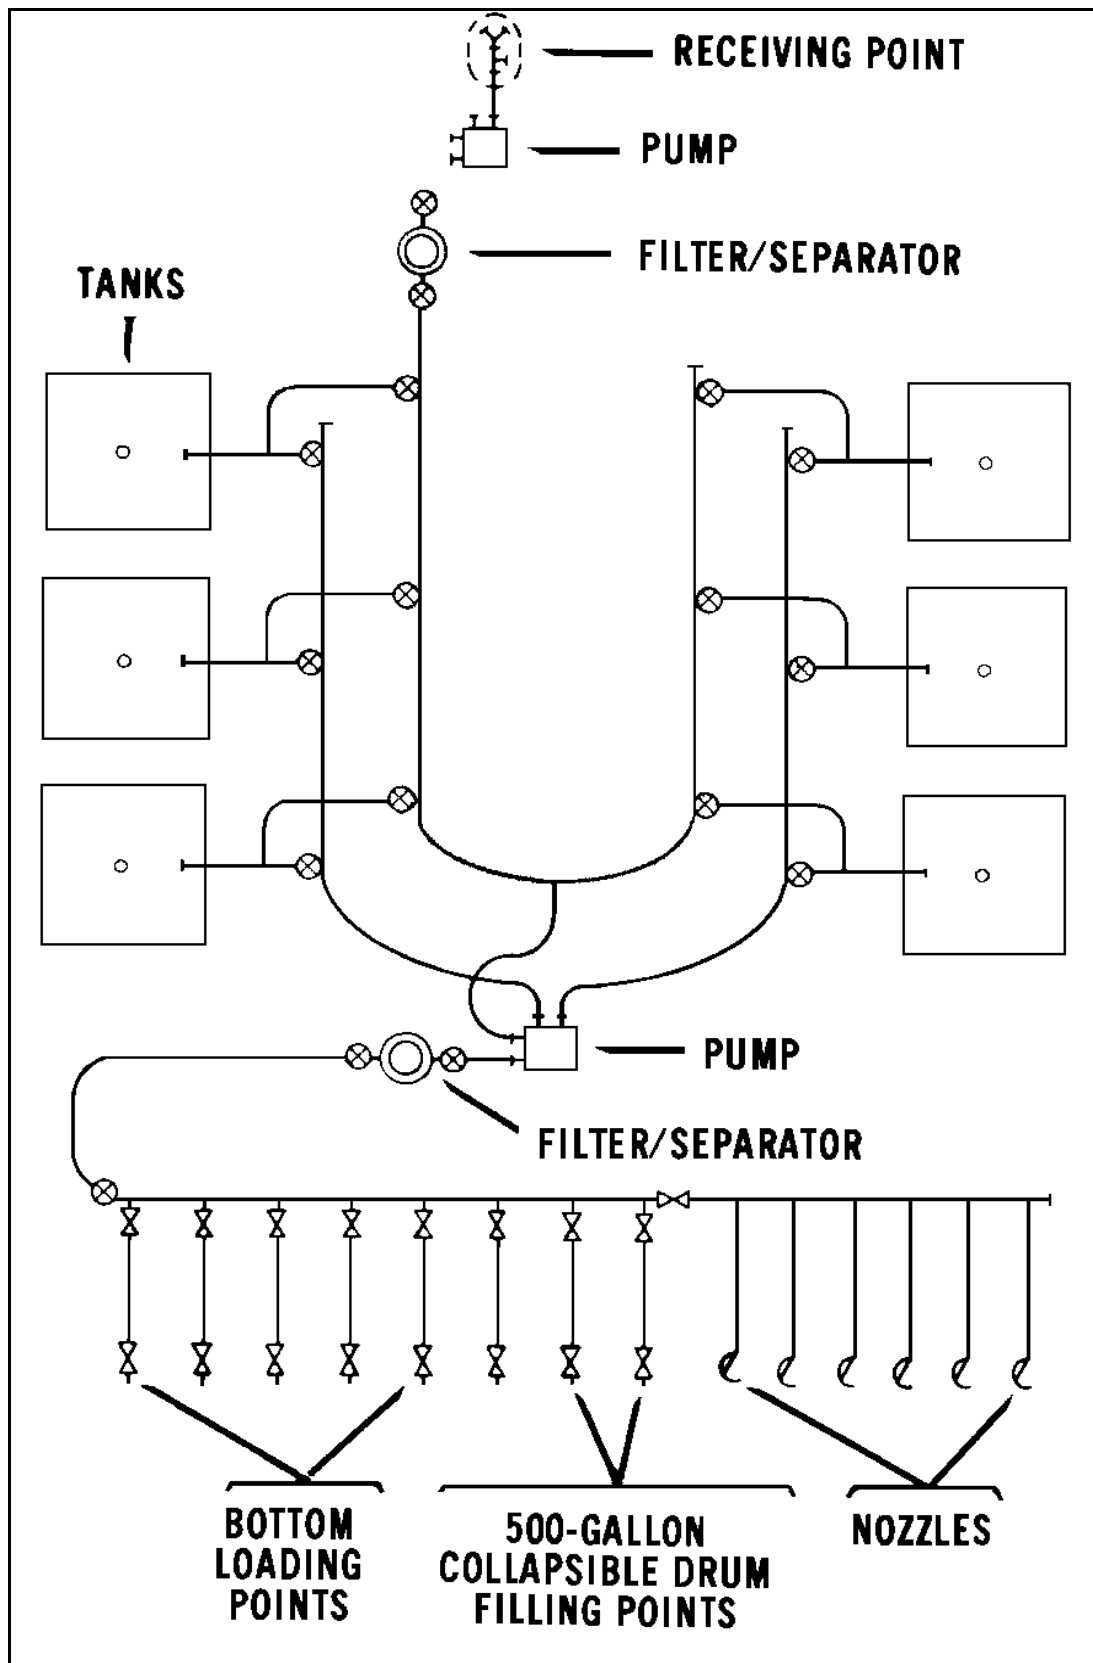

Figure 28-3. Consolidating or circulating product in the FSSP
- Open the discharge valve on the pump, and increase the pump speed to the operating level. Continue pumping this way until you have finished the transfer. Figure 28-3, page 28-11, shows the product moving through the FSSP.